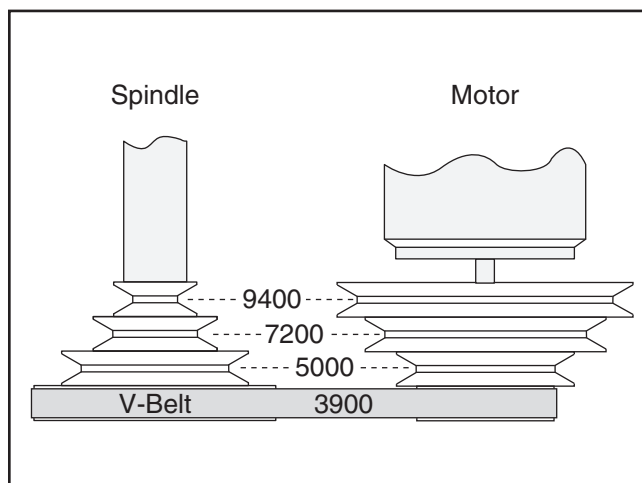

Figure 24. V-belt positions for different speeds.
The speed of the cutter is changed by changing the V-belt alignment between the motor pulley and the spindle pulley (see **Figure 24**).
4. Change the V-belt to the desired pulleys (reference **Figure 24**).